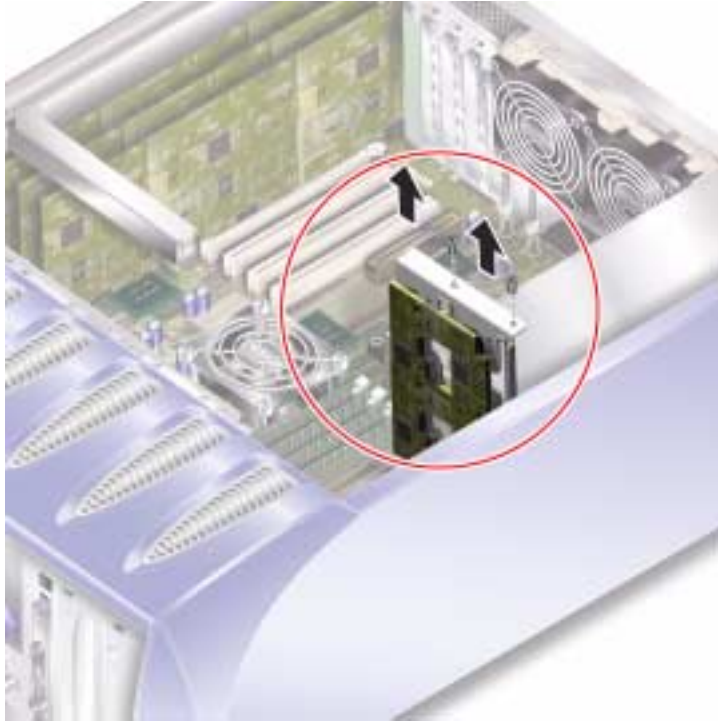

FIGURE 1-13 Power Distribution Board Removal
10. Remove the power distribution board and wiring harness. See FIGURE 1-13.